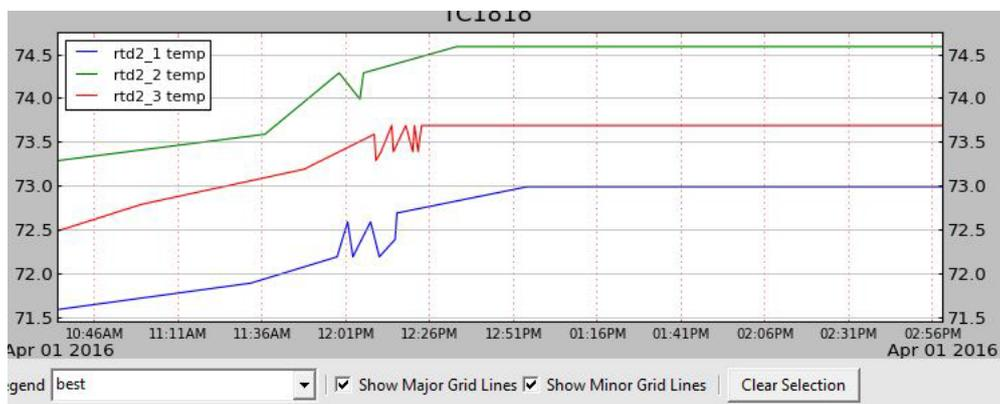

Figure 21: Trend Plotter - Grid
6. Use the “Show Major Grid Lines” and “Show Minor Grid Lines” checkboxes to turn on and off the major grids (black lines) and the minor grids (red lines) of the plot (Figure 21).